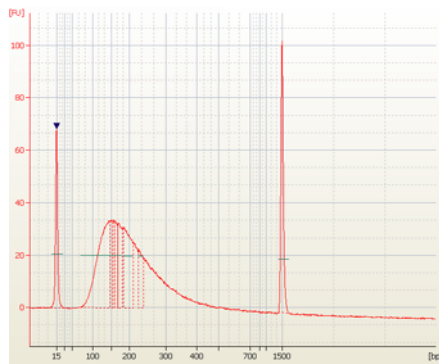

Figure 2 Analysis of sheared DNA using a DNA 1000 Bioanalyzer assay.
- 3 Check that the electropherogram shows a DNA fragment size peak between 150–200 bp. A sample electropherogram is shown in Figure 2.